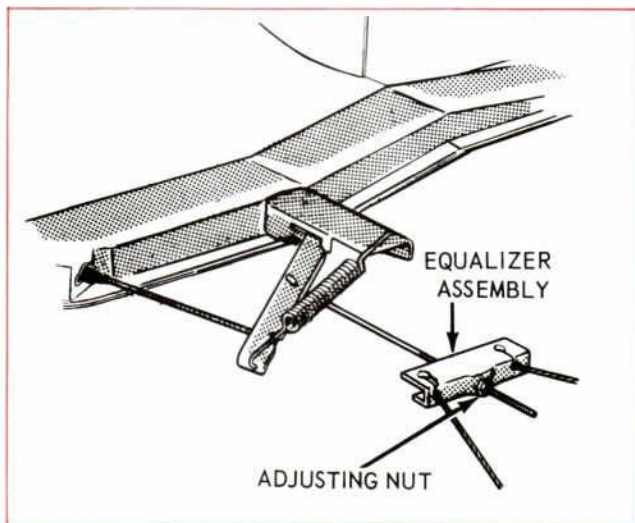

Figure 3—Parking Brake Linkage Adjustment
4. Turn the adjusting nut forward against the equalizer until a moderate drag is felt when turning the rear wheels (Figure 3).